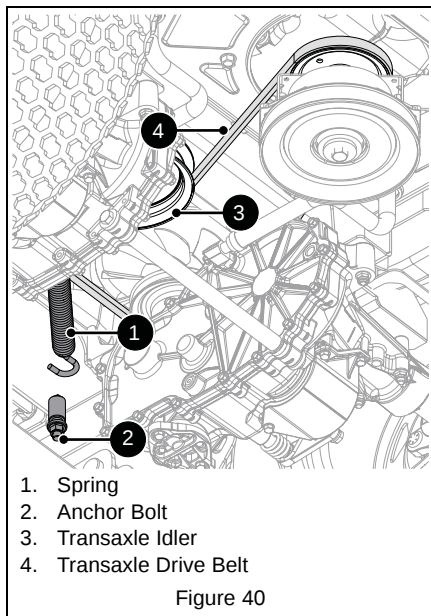

Figure 40
3. Under unit, slowly remove spring hook from anchor bolt to release transaxle idler tension. See Figure 40.